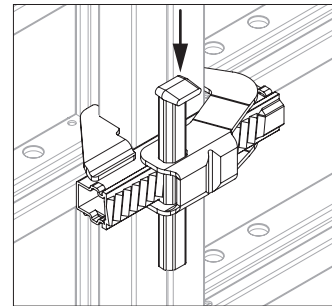

Fig. A5.01b
5. Secure the wedge (**28.1**) with a hammer. (Fig. A5.01b)